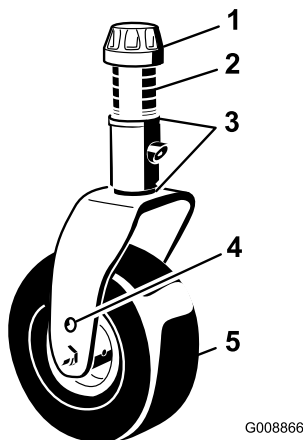

Figure 105
1. Remove the tensioning cap from the spindle shaft and slide the spindle out of the caster arm (Figure 105).